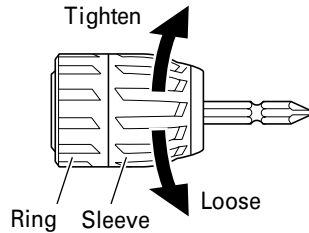

Fig. 9
- (1) After inserting a driver bit, etc. into the keyless drill chuck, firmly grasp the ring and tighten the sleeve by turning it toward the right (in the clockwise direction as viewed from the front) (See Fig. 9). If the sleeve becomes loose during operation, tighten it further. The tightening force becomes stronger when the sleeve is tightened additionally.
- (2) Dismounting the bit